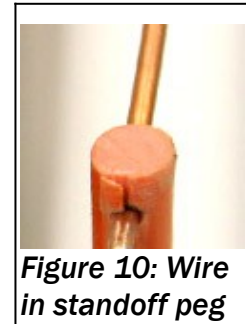

Figure 10: Wire in standoff peg
c) **Wire holes.** Near one end of every peg, drill a hole large enough to freely pass your antenna wire (Figure 10). No. 12 bare wire is about 0.08" in diameter, so a $\frac{3}{32}$ " (0.094") hole is sufficient. Drilling a hole into the side of a $\frac{1}{4}$ " fiberglass peg is tricky. Clamp the peg in a vise, then use a center punch or nail to make a dimple. Start with a small drill bit to act as a pilot hole, then drill the final hole. *Wear gloves and a mask to protect against fiberglass dust.*